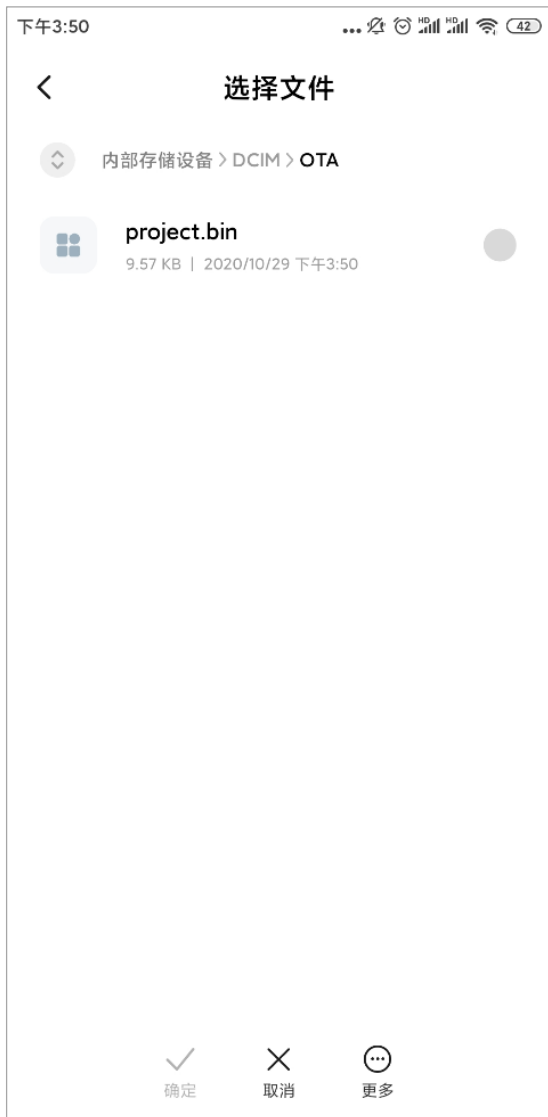

Figure 2-5 Select bin file
(2) Go to the bin directory and select the bin file ss shown in Figure 2-5: